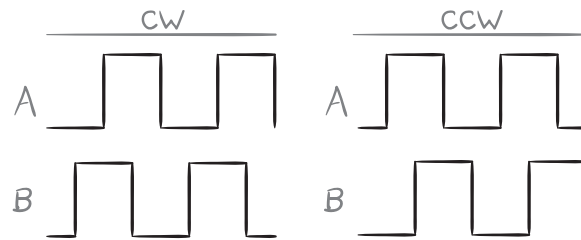

Figure 04.5: quadrature encoding with channels A and B.
The only issue remaining is that a given “blink” doesn’t give one important piece of information: which direction the encoder is rotating. However, a clever technique called *quadrature encoding* can be used to determine direction. If we offset one of the two sources/detectors by half of a stripe width, then measure both “channels” A and B, then the direction can be determined by which channel “leads” the other. For instance, in Figure 04.5, the encoder output is high when light is detected and low when it is blocked by a stripe. Channel A leads B when the encoder is rotating clockwise (CW) and B leads A when it is rotating counter-clockwise (CCW).